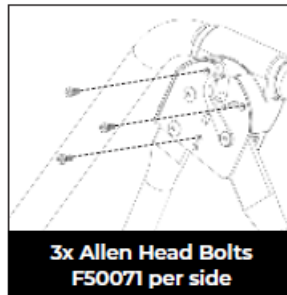

Figure 7
- Figure 7: Insert and loosely hand-tighten three of the Allen Head Bolts through the Hinge Plate into the handle.